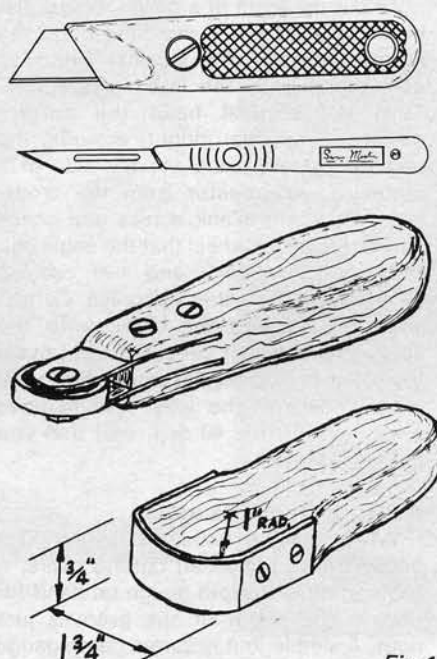

Fig 1
2. A good quality craft knife, with a pointed, fairly thin blade, tip angle between 30° and 60°. (Fig. 1).